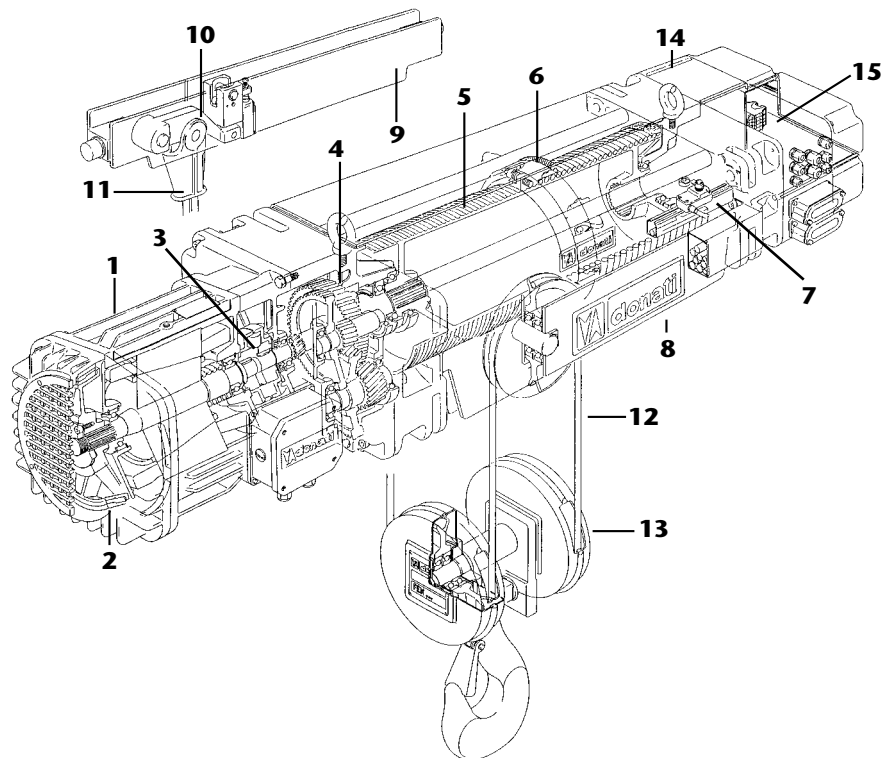

fig. 5
2.1.3 DRH wire rope hoist parts (fig. 5)